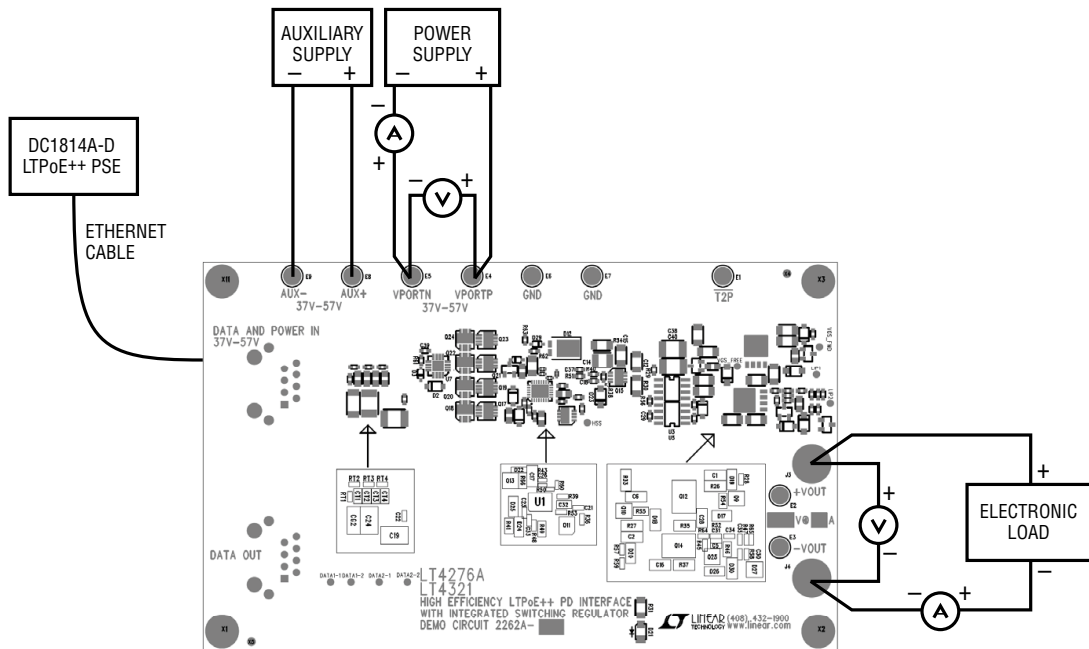

Figure 8. Proper Measurement Equipment Setup
Demonstration circuit 2262A-B is easy to set up to evaluate the performance of the LT4276 in a PoE application. Refer to Figure 8 for proper equipment setup and follow the procedure below:
1. Place test equipment (voltmeters, ammeters, power supplies, and electronic load) as shown in Figure 8.
- b. Or, connect a 37V to 57V capable power supply (“Power Supply” in Figure 8) across VPORTP and VPORTN.
- c. If evaluating the auxiliary power supply (“Auxiliary Supply” in Figure 8), connect a 37V to 57V capable power supply across AUX+ to AUX-.